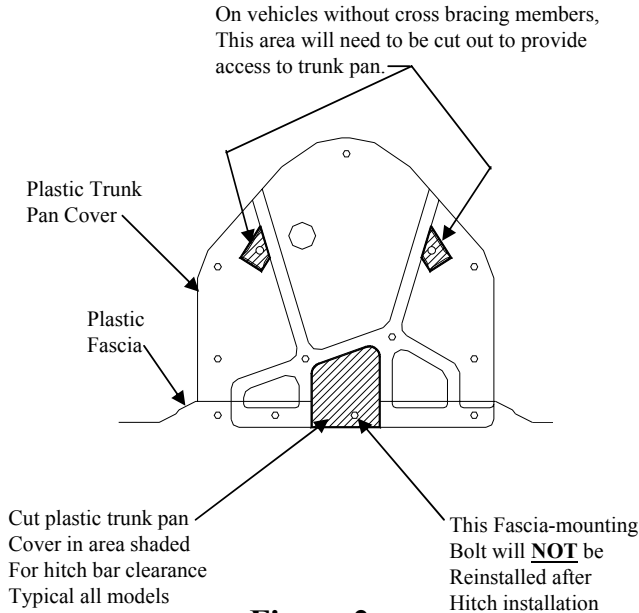

Figure 2
1. Remove (2) M10 fasteners which secure vehicle cross-bracing members to trunk pan as shown in Figure 2 and return to vehicle owner.
2. Remove (4) fascia-mounting bolts which attach fascia to trunk pan as shown in Figure 2. Retain (3) of these bolts for re-installation (one bolt will not be re-installed and may be returned to vehicle owner). Remove (7) flanged nuts which attach plastic trunk pan cover to trunk pan. Retain all (7) flanged nuts for re-installation of trunk pan cover.
4. Cut plastic trunk pan cover as shown in Figure 2.